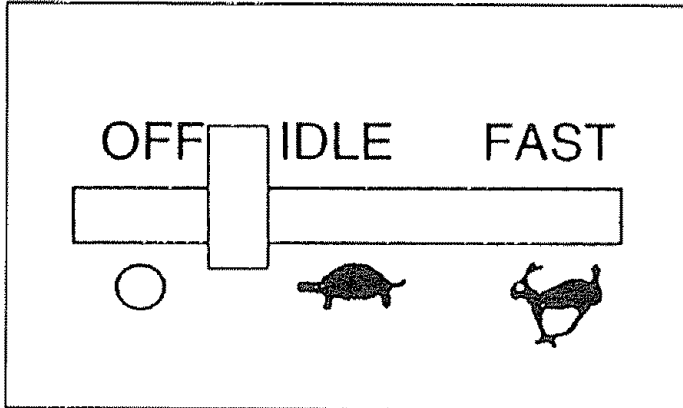

FIG. 9
- First, move engine throttle lever to "OFF" position (Fig. 9).